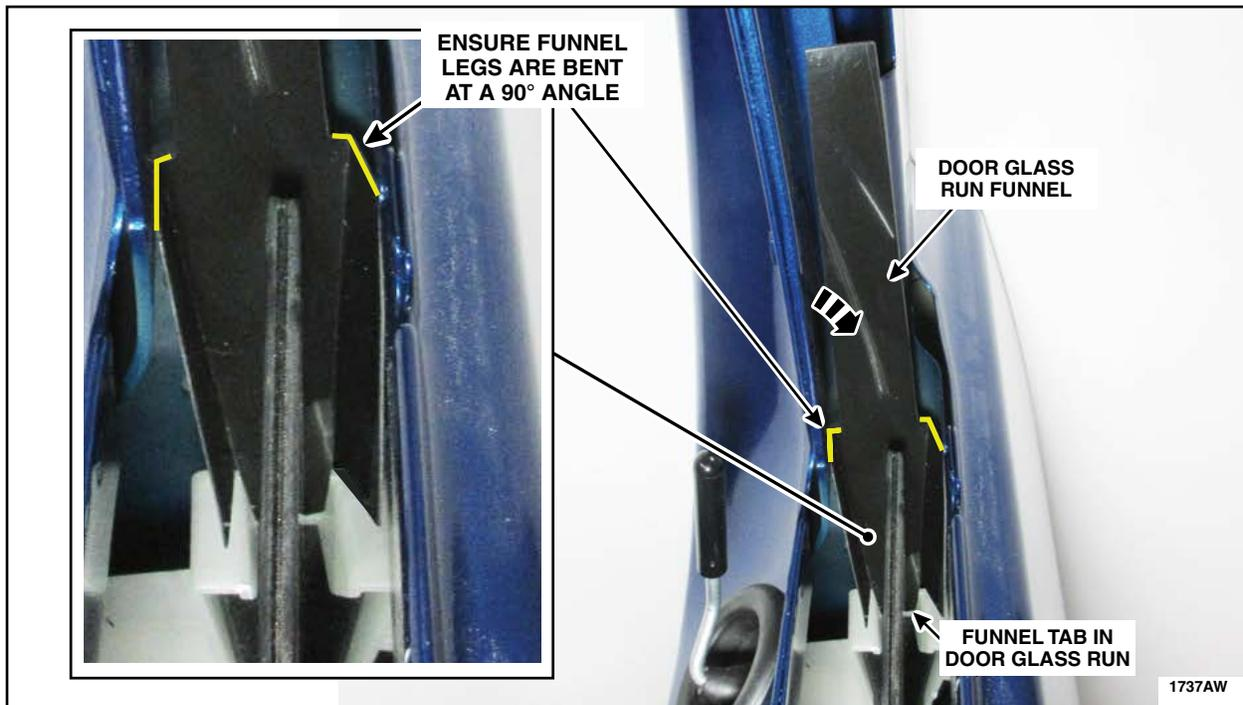

FIGURE 26
16. Install one of the appropriate length door glass run funnels ensuring that the lower tab is situated in the door glass run and the funnel sides sit at a 90° angle above the door glass run. See Figure 26. Refer to ATTACHMENT V for additional information.